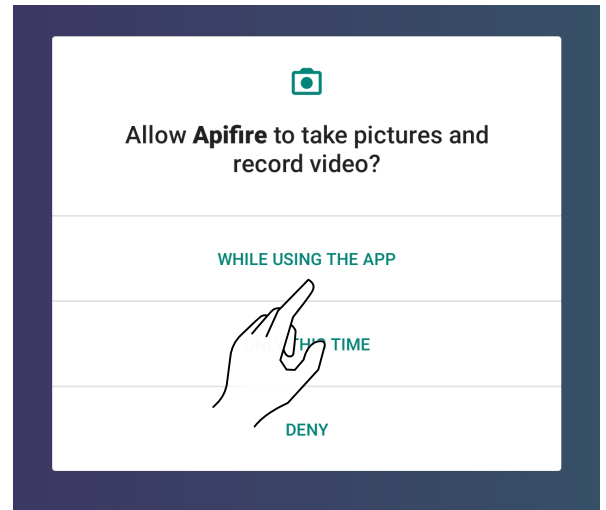

Fig. 8.1
- that you have scanned the QR code correctly. Check that ApiFire allows use of the camera, if it has not been allowed the scan will appear completely black; therefore, edit the settings as shown in Fig. 8.1 and 8.2, or manually enter the 16-digit code;